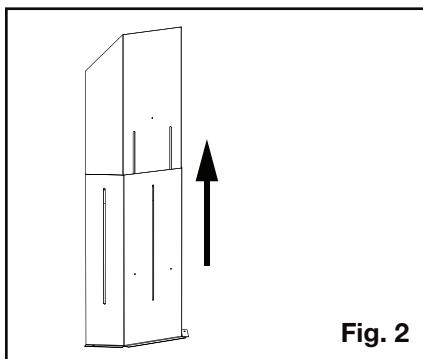

Fig. 2
2. Adjust the vent shield to its maximum vertical (**Figure 2**).